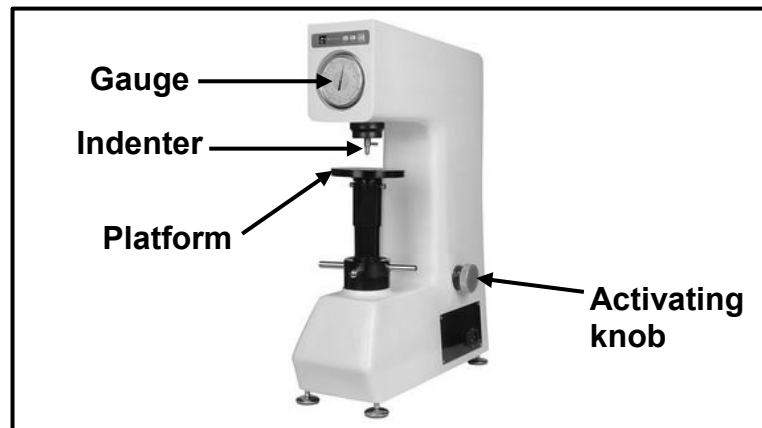

FIGURE 4.6
4.6 Identify the type of tester shown in FIGURE 4.6 below.